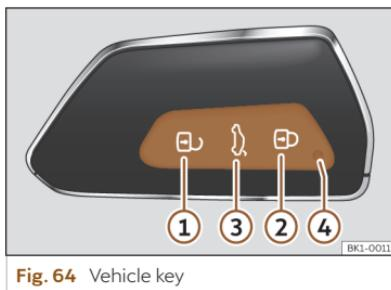

Fig. 64 Vehicle key
When a button is pressed briefly on the vehicle key, the control lamp ④ **>>> Fig. 64** flashes once briefly, but if pressed for a long period of time, it will flash several times, for example, when using the comfort opening.